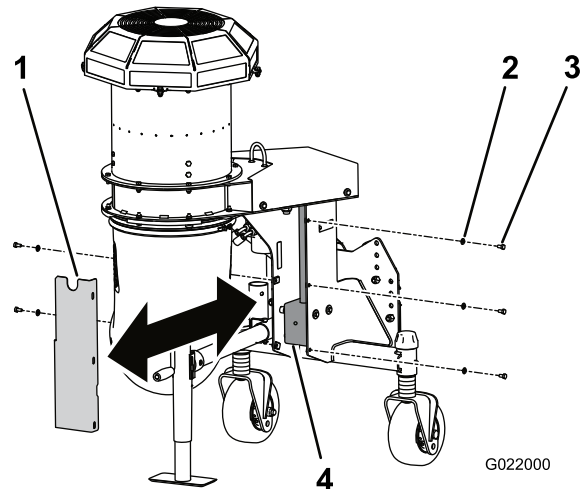

Figure 24
2. Remove the (5) screws and washers securing the gear case cover to the blower (Figure 24).
3. Remove the cover to expose the blower gear case (Figure 24).